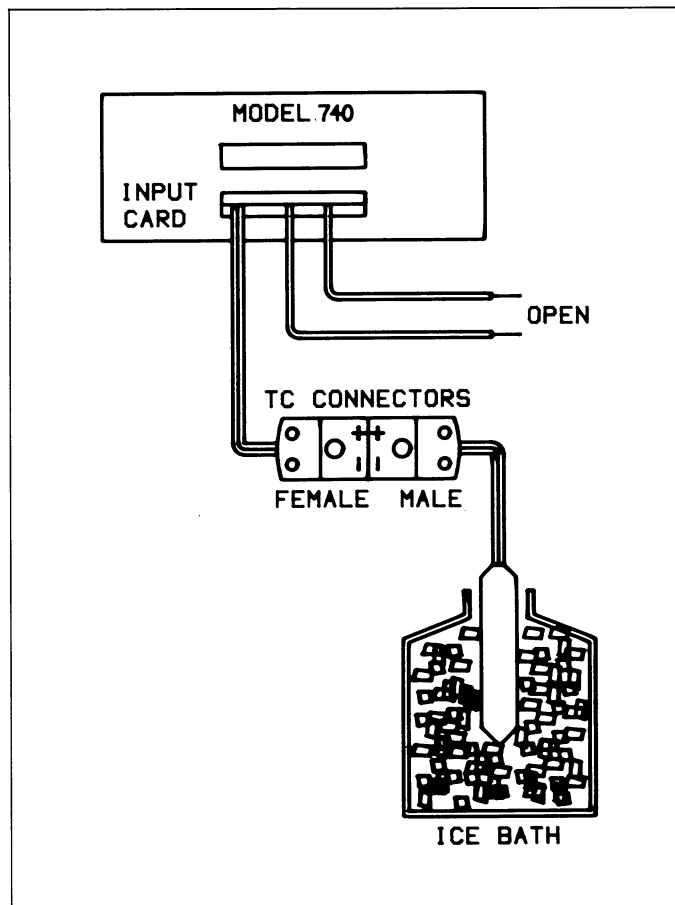

Figure 6-4. Reference Junction Calibration
19. Remove the DC calibrator from the input and connect the TC that is in the ice bath to the female TC connector as shown in Figure 6-4. Make sure that the two copper wires do not short together.
9. Remove the DC calibrator from the input and connect the thermocouple that is in the ice bath to the female TC connector as shown in Figure 6-4. Make sure that the two copper wires do not short together.